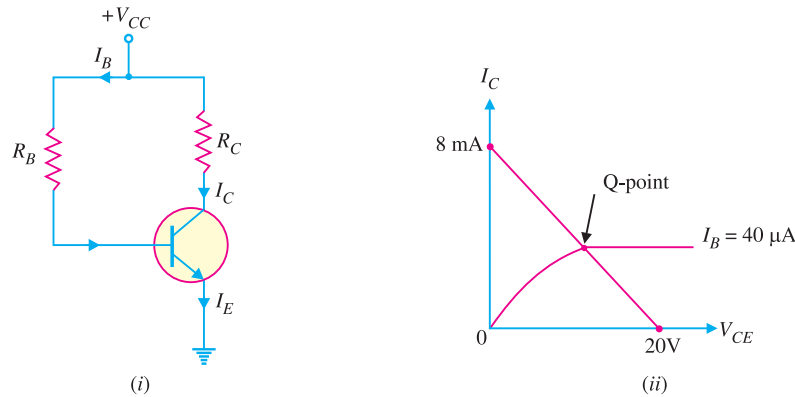

Fig. 9.13
**Example 9.10.** Fig. 9.13 (i) shows the base resistor transistor circuit. The device (i.e. transistor) has the characteristics shown in Fig. 9.13 (ii). Determine  $V_{CC}$ ,  $R_C$  and  $R_B$ .